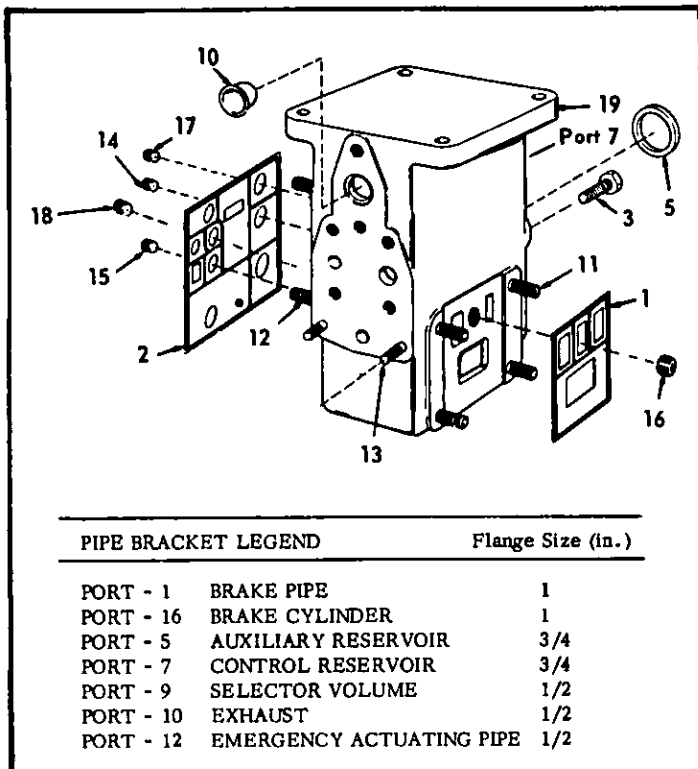

FIGURE 3 - EXPLODED VIEW
2. **IMPORTANT:** When a new or repaired and tested Service Portion is mounted on the Pipe Bracket Portion a NEW mounting gasket MUST BE used. (See Figure 3 Reference 2).
(Refer to Figure 3)